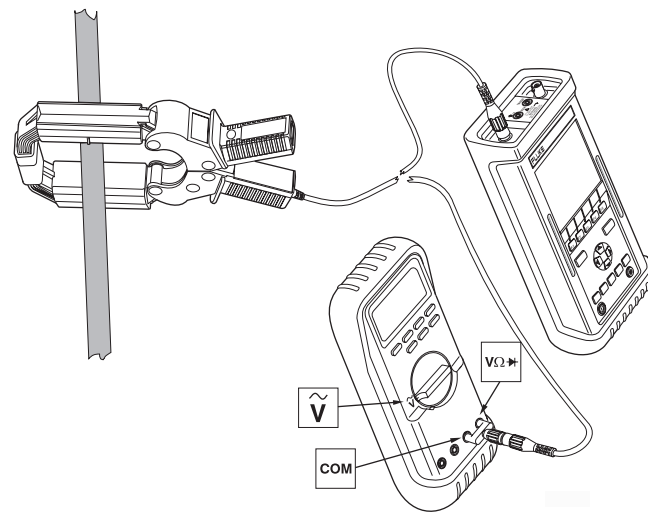

Figure 8. Measurement Setup
1. Connect the i3000s Current Clamp to the desired input on the measuring instrument. When you are using a multimeter, use the Dual Banana to BNC Adapter (PM9081/001) to connect the Current Clamp to the input. (See Figure 8.)